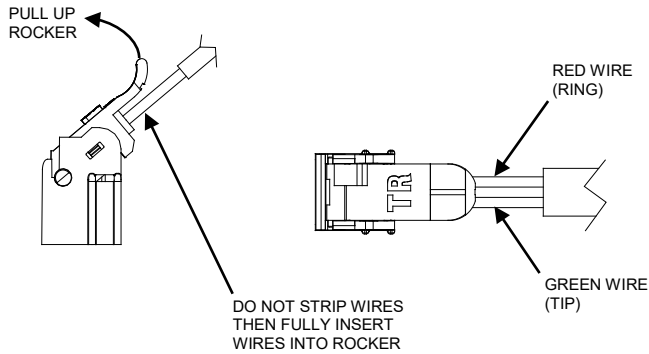

Figure 1
1. Mount the unit to the wall as required, using the (2) #8 screws provided.
4. Install the tip and ring wires from the telephone company into the IDC rocker (marked "IN"). Do not strip the wires. Pull up the IDC rocker to the fully open position & insert the Telco wires until they bottom out (See Figure 1).
6. Install the inside customer premises wiring into the IDC rocker (marked "OUT"). Do not strip the wires. Pull up the IDC rocker to the fully open position & insert the customer premise wires until they bottom out (See Figure 1).